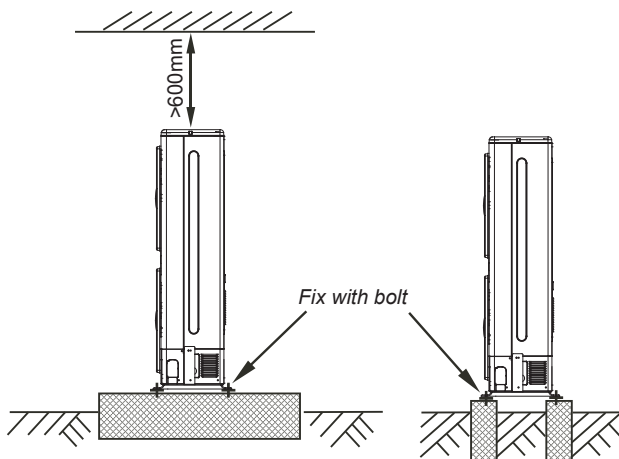

Fig.6-8
- 3) Make concrete foundation according to the specifications of the outdoor units. (refer to Fig.6-8)
- 4) Fasten the feet of this unit with bolts firmly to prevent it from collapsing in case of earthquake or strong wind. Refer to Fig.6-8